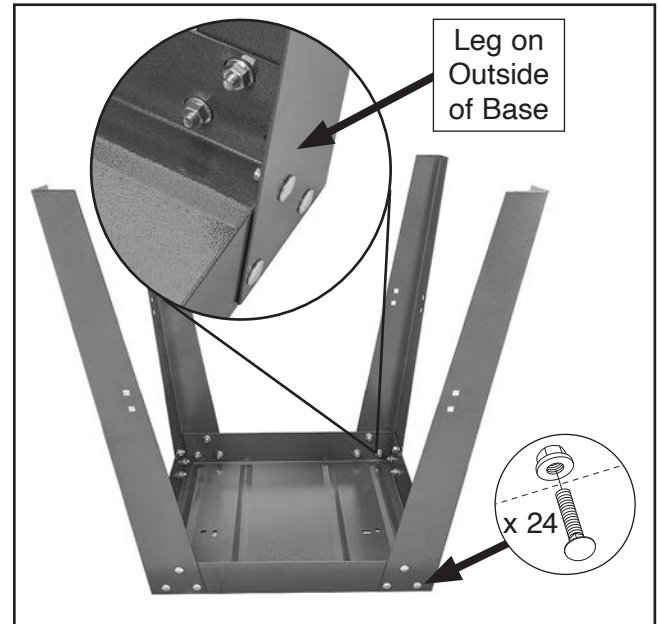

Figure 9. Leg attached to base.
1. Place base plate upside down on flattened cardboard, and loosely attach legs to outside corners using (24) M8-1.25 x 16 carriage bolts and flange nuts, as shown in **Figure 9**.